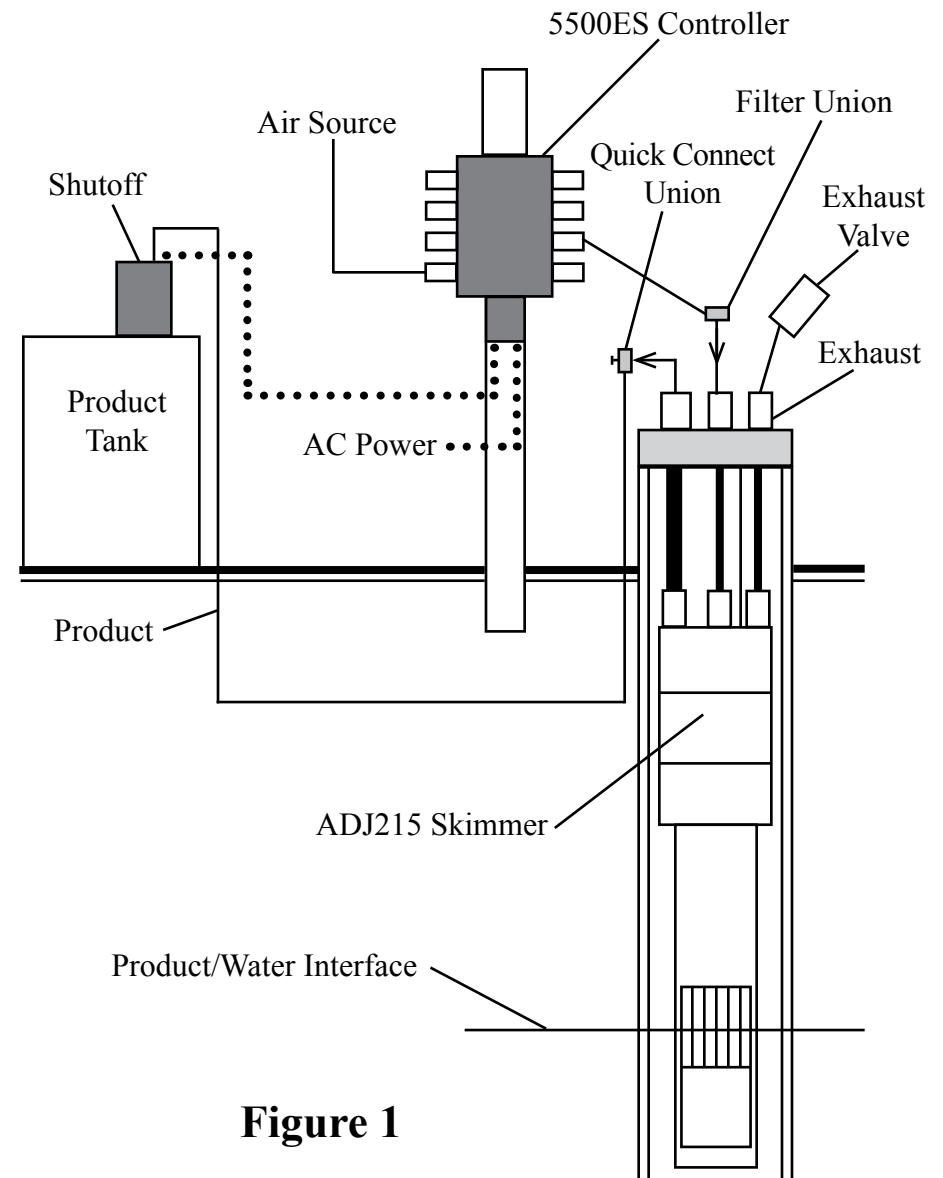
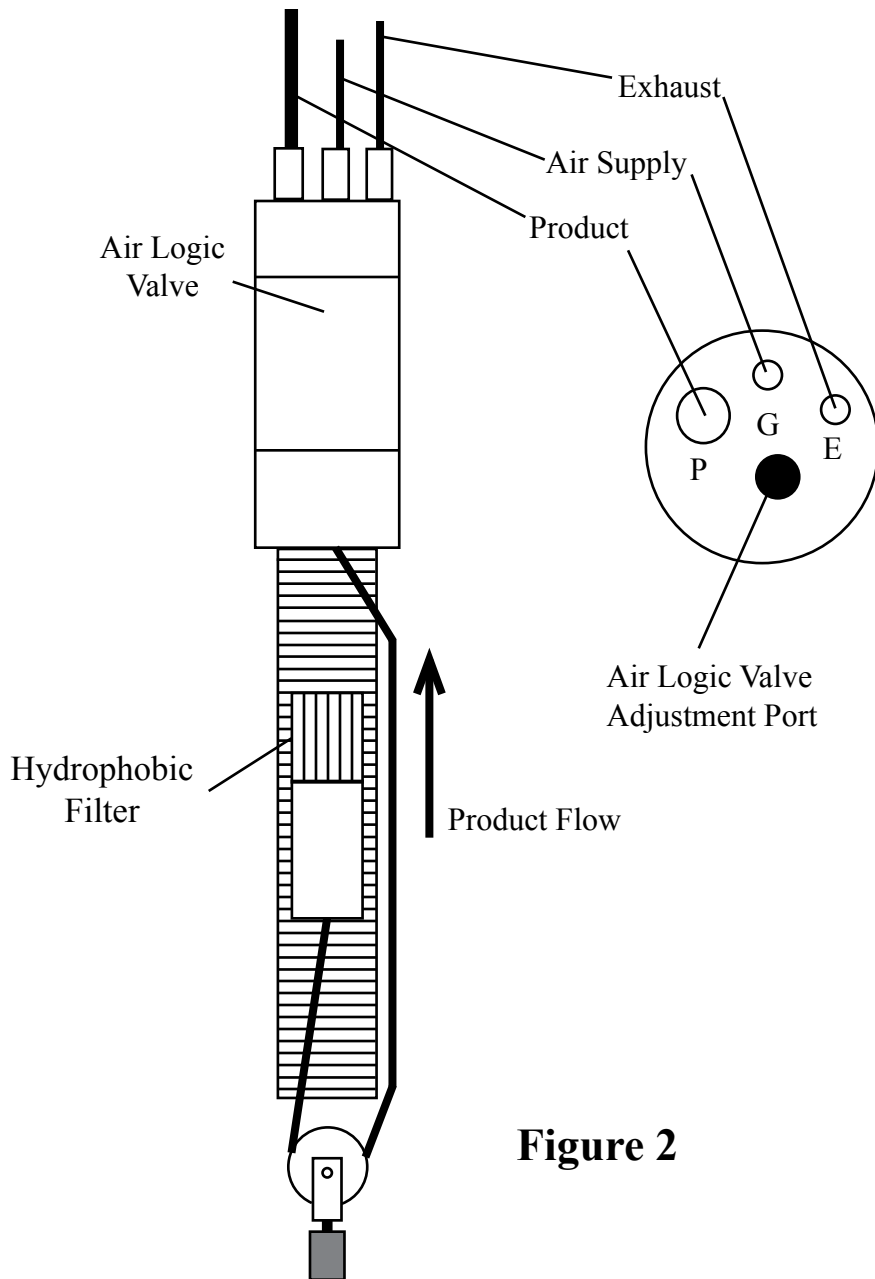

Figure 1
Figure 2
The system (Figure 1) relates to floating hydrocarbon recovery in wells two inches in diameter and larger. This system includes: an intrinsically safe ADJ215 pneumatic Smart Skimmer (Figure 2) which removes only the product to a sheen down to 200 feet deep; and a programmable Controller Model 5500ES which operates up to 16 skimmers intermittently, records run time, and has a high level tank shutoff assembly.
STEP 7. Position the skimmer and well cap on the ground near the well. Cut a length of 1/4" OD air supply tubing to cover the distance from the top of the well down to water/product interface, plus 5 feet. **NOTE:** If the skimmer is over 70 feet deep, use 3/8" OD air supply tubing in stead of 1/4" OD tubing. Slide enough tubing through the well cap and attach the end of the tubing to the top of the skimmer tube fitting labeled "G" (Figure 2). If the product thickness is greater than 1 foot, position the center of the skimmer screen 1 foot below top of product. If the product thickness is less than 1 foot, position the center of the skimmer screen at the water/product interface.
STEP 8. Cut a length of 5/16" OD product tubing same length as the air supply line. Install 5/16" OD product tubing through the well cap tube fitting labeled "P" (Figure 2). Slide enough tubing through the well cap and attach the end of the tubing to the top of the skimmer tube fitting labeled "P". **CAUTION:** Do not kink the tubing.